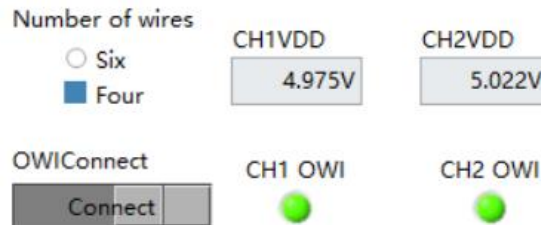

Figure 5.1.8 OWI connection
- Click the "Four" option under "Number of wires" and select the chip connection form (described in the programmer hardware connection diagram in Chapter 3). Click the "Connect" button to establish a communication connection between the programmer and the chip. When connected normally, the programmer connection indicator light will turn green (Figure 5.1.8).